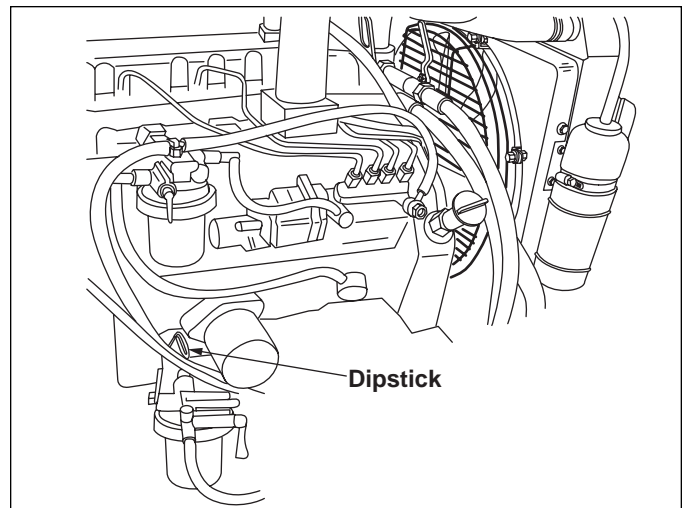

Figure 4-2. Engine Oil Dipstick
3. Check the engine oil level using the dipstick located on rear of the engine (Figure 4-2).